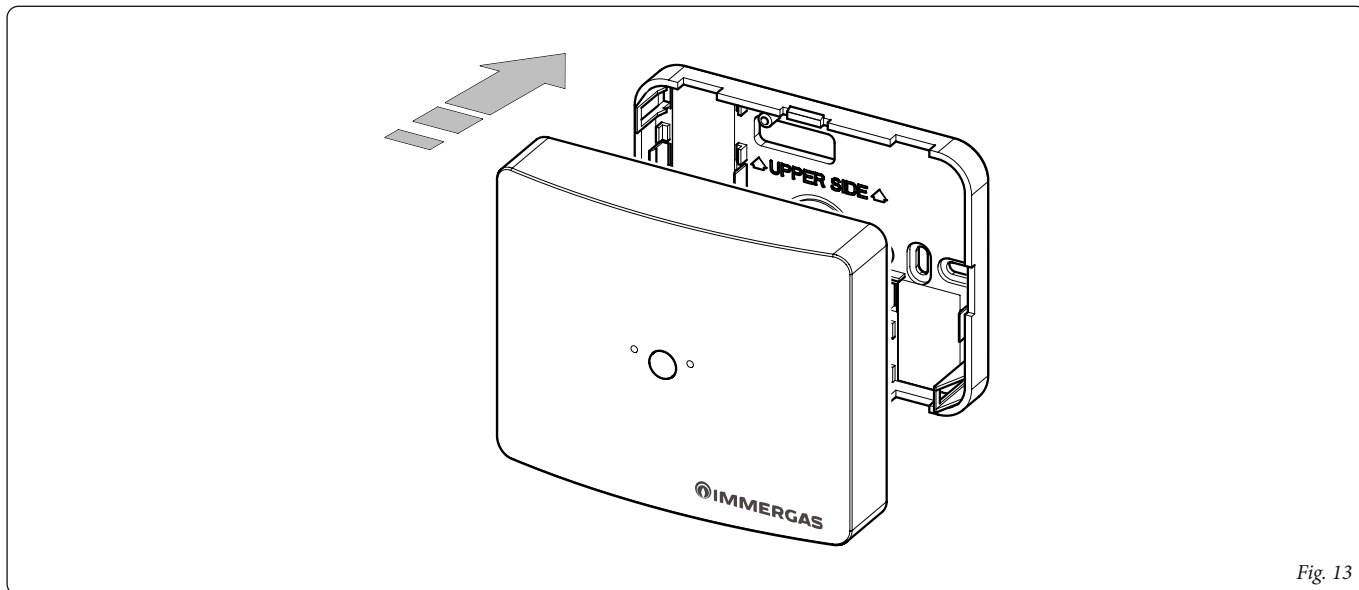

Fig. 13
3) Fissare il coperchio della sonda ambiente wireless al supporto innestandolo a pressione (Fig. 13).
3) Secure the cover of the wireless room probe to the support by engaging it by pressure (Fig. 13).